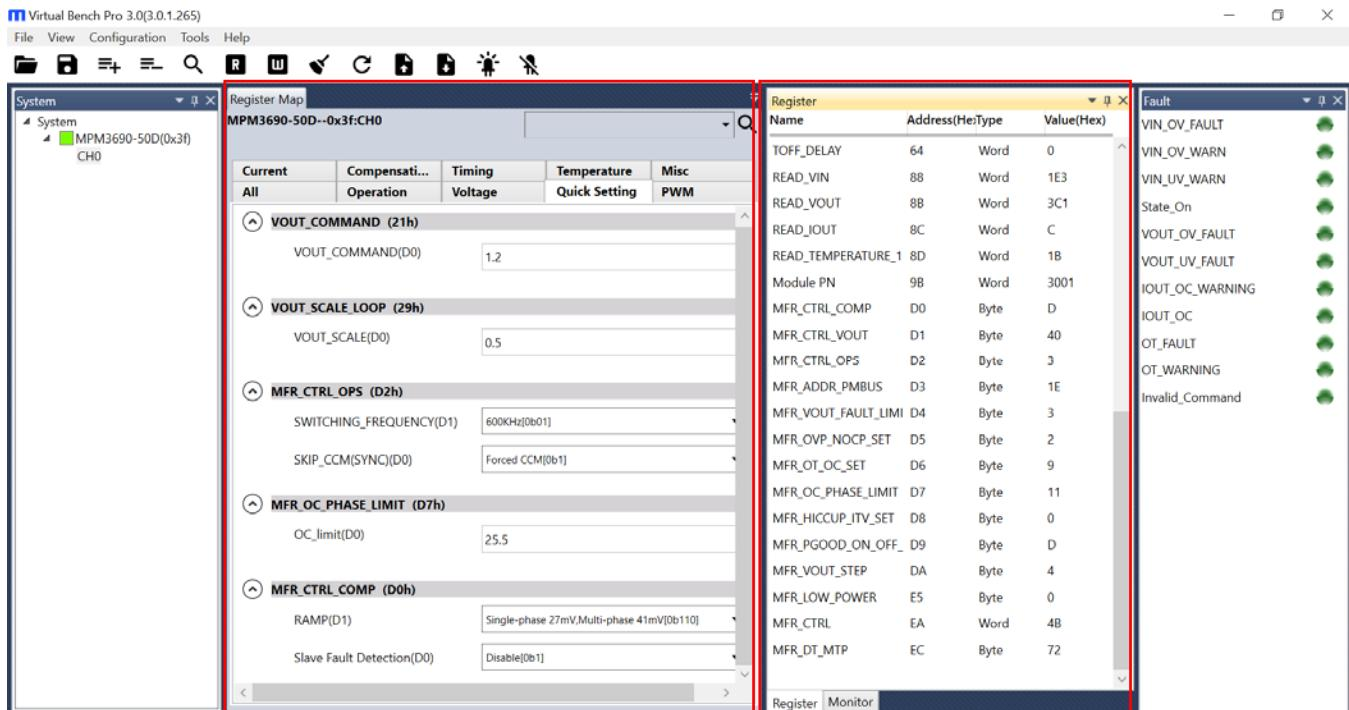

Figure 4: Register Control Menu and Register Values
5. The Register control menu should appear in the middle panel. The values stored in the registers of the module are read automatically (see Figure 4).